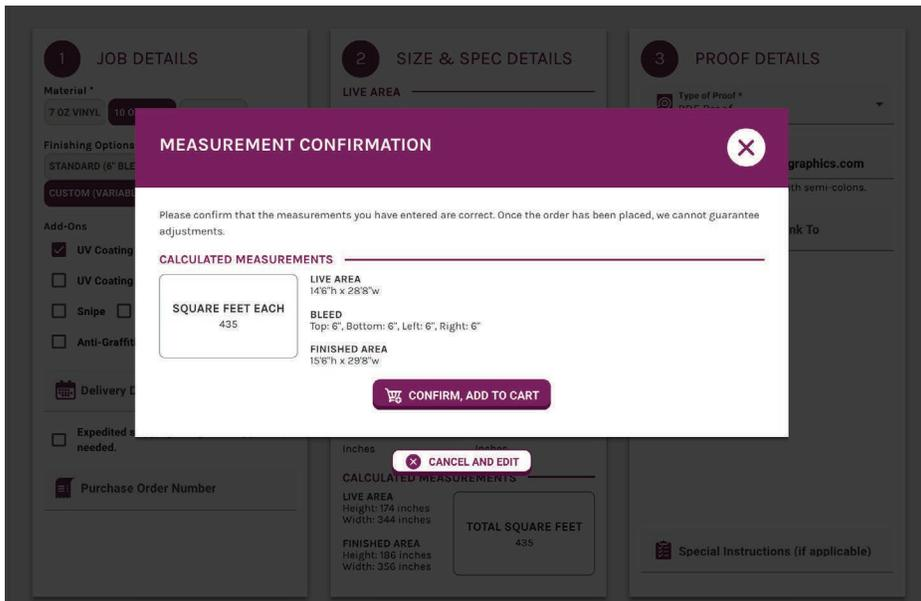

Fig. 7
4. If the **Order Details** are complete click the **Add to Cart** button at the bottom right. A window will come up asking to confirm sizes. If correct, click the **Confirm, Add to Cart** button, if not click the **Cancel and Edit** button to edit the order. (see Fig. 7)